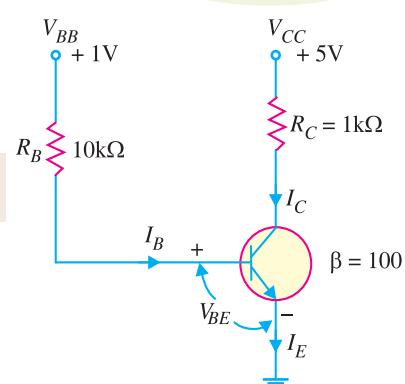

Fig. 8.62
**Example 8.40.** For the circuit shown in Fig. 8.62, find the power dissipated in the transistor. Assume  $\beta = 100$ .
**Solution.** The transistor is usually used with a resistor  $R_C$  connected between the collector and its power supply  $V_{CC}$  as shown in Fig. 8.62. The collector resistor  $R_C$  serves two purposes. Firstly, it allows us to control the voltage  $V_C$  at the collector. Secondly, it protects the transistor from excessive collector current  $I_C$  and, therefore, from excessive power dissipation.
Referring to Fig. 8.62 and applying Kirchhoff's voltage law to the base side, we have,